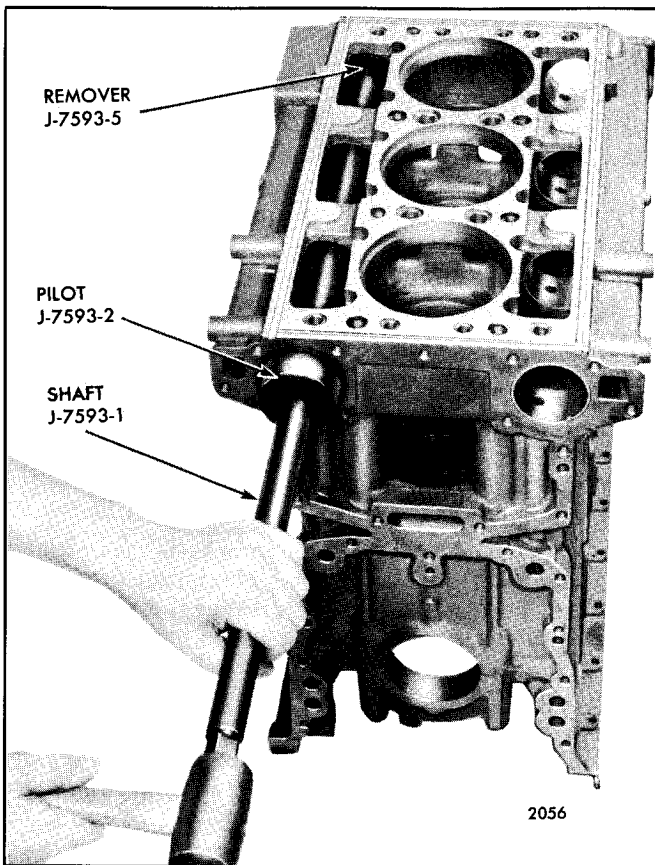
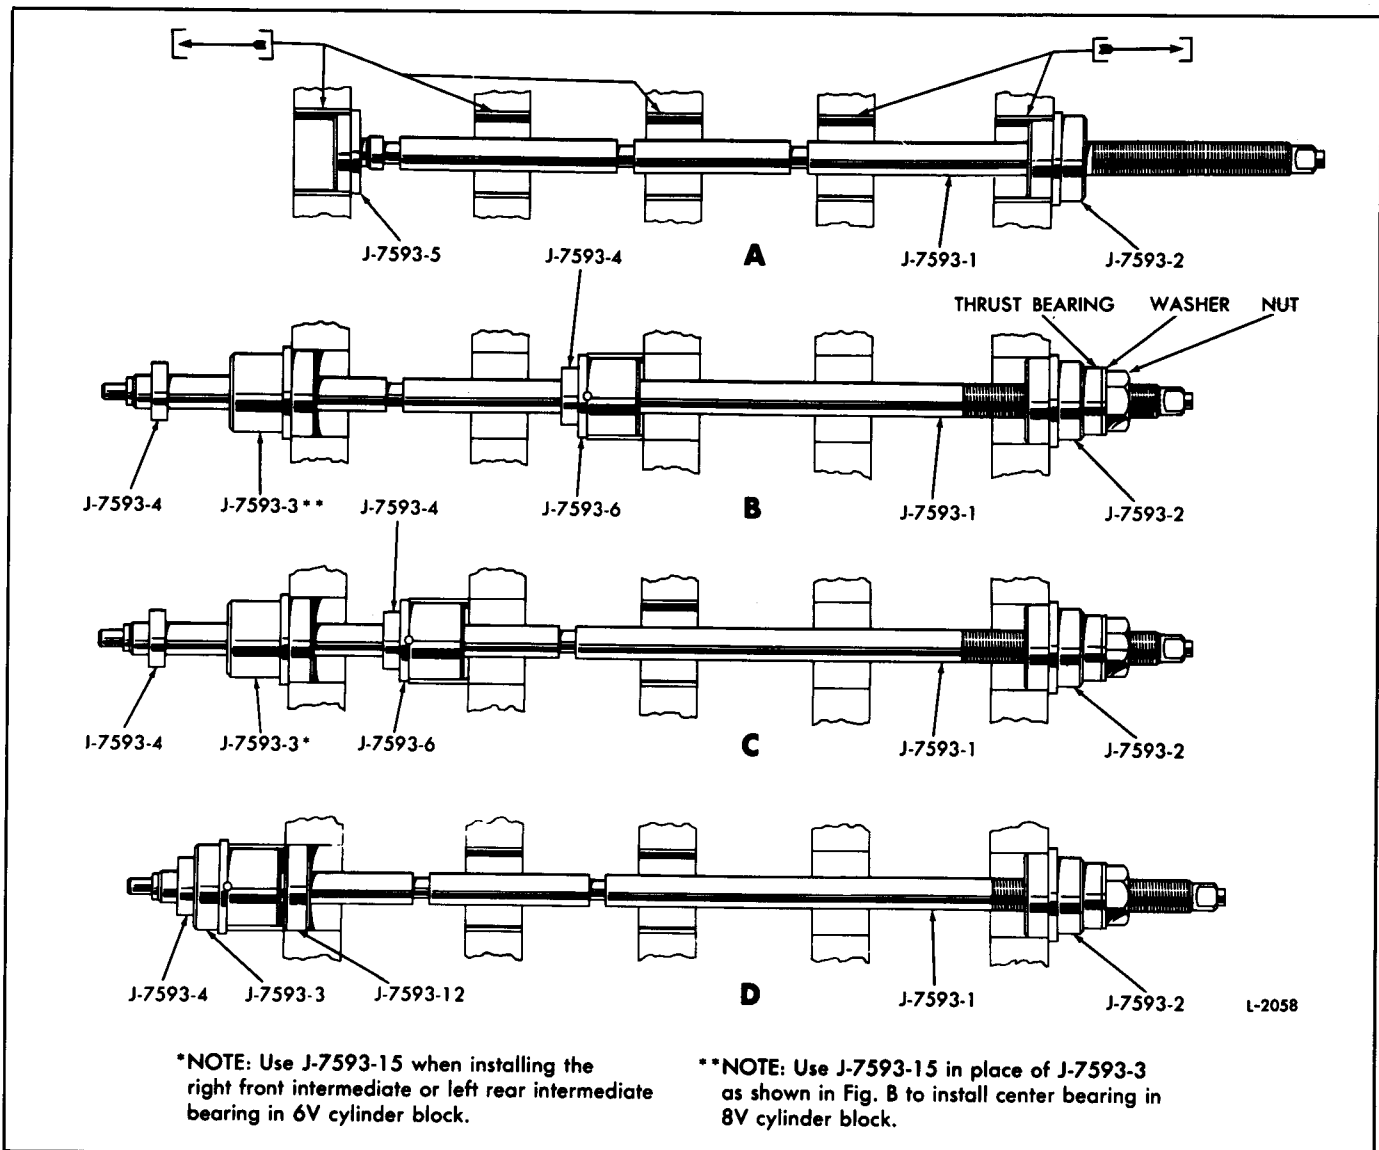
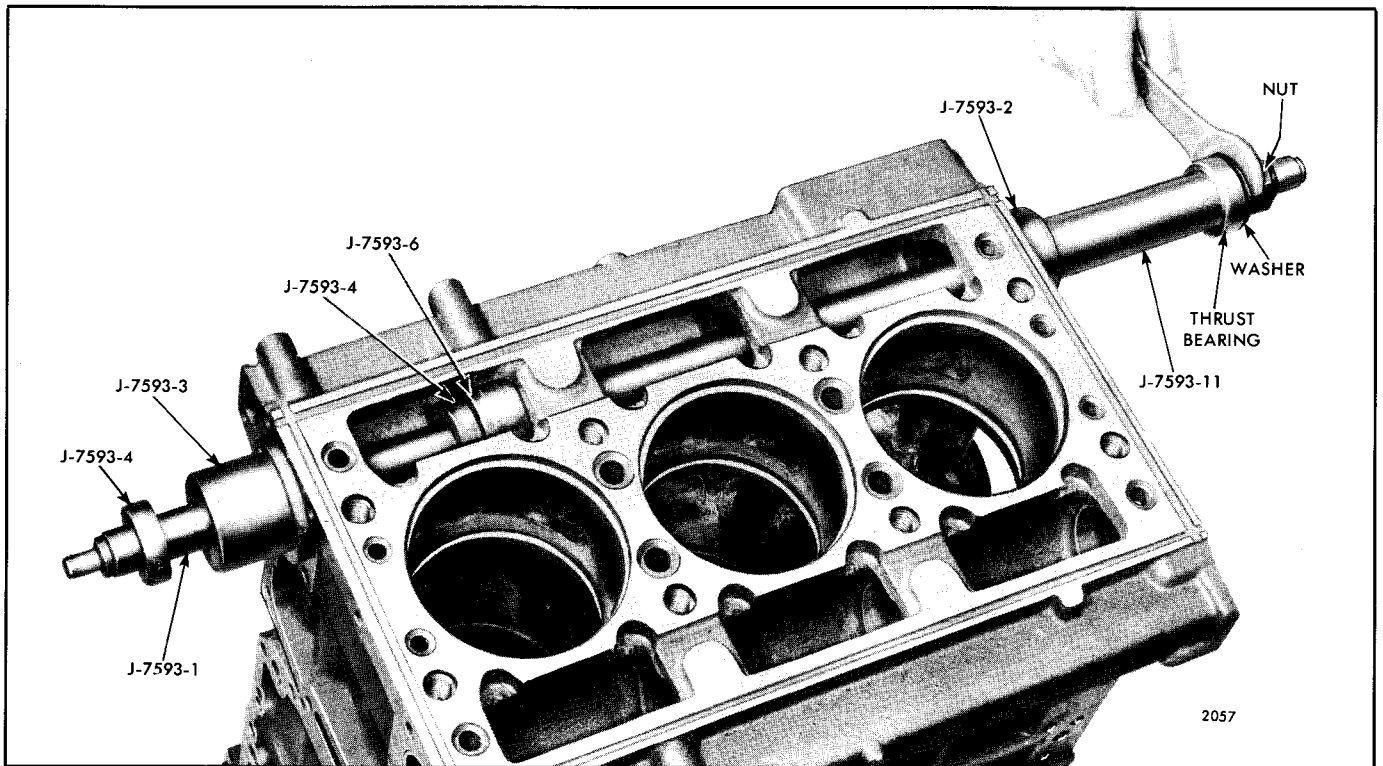

Fig. 5 - Removing End Bearing with Tools J 7593-1, J 7593-2 and J 7593-5
Fig. 6 - Removing and Replacing Camshaft or Balance Shaft Bearings with Tool Set J 7593-03
Fig. 9 - Installing Intermediate Camshaft Bearing using Tool Set J 7593-03
1. Remove all accessories and assemblies with their attaching parts as is necessary so that tool set J 7593-03 may be used as shown in Fig. 5 and in A of Fig. 6.
1. Insert pilot J 7593-2 in the bore of the block (Fig. 9). Use the small end of the pilot if an end bearing has been installed. Refer to B and C of Fig. 6.
4. Slide installer J 7593-6 on the shaft until the locating pin registers with the notch in the bearing. Then, slide installer J 7593-3 or J 7593-15 on the shaft with the large diameter inserted into the end of the block bore. Refer to C and NOTE of Fig. 6.
5. Next, place a spacer (if required), thrust washer, plain washer and hex nut over the threaded end of the puller. The short spacer J 7593-11, shown in Fig. 9, is used on the 3-53 and 6V blocks.
1. Insert pilot J 7593-2 in the bore of the block as shown in "D" of Fig. 9. Use the small diameter of the pilot if a bearing has been installed.
- Next, place a spacer (if required), thrust washer, plain washer and hex nut over the threaded end of the shaft as shown in "D" of Fig. 6 and, using a suitable wrench on the hex nut, draw the bearing into place until the shoulder on the installer prevents the shaft from further movement. The bearing is now installed in its correct position.